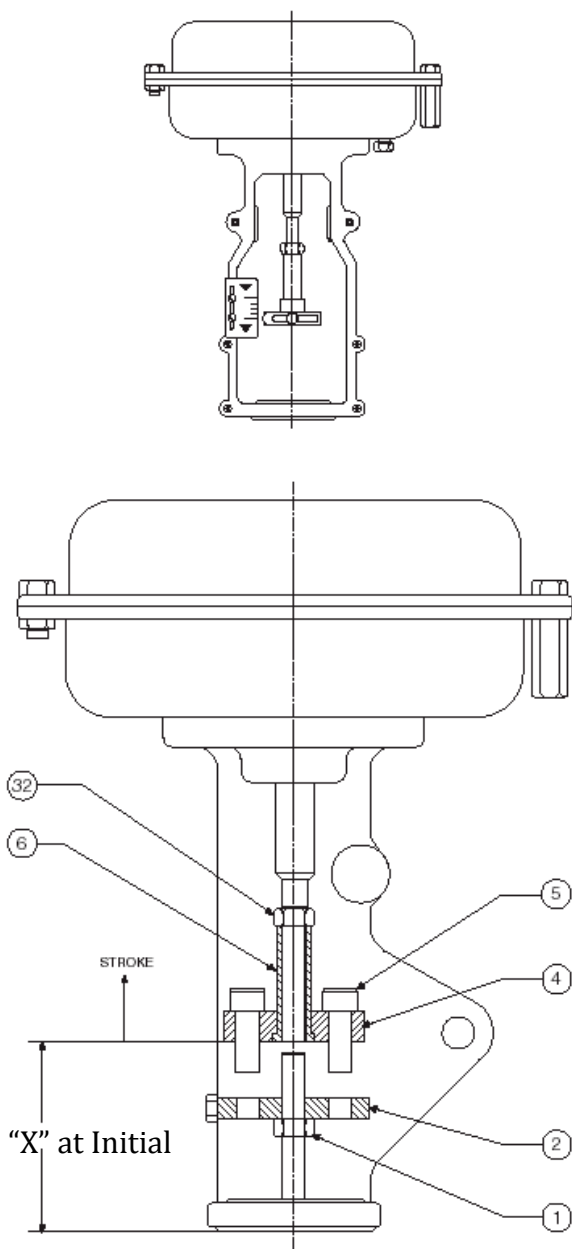

Figure 14
Apply initial air pressure. Adjust the plug stem to position of stem flange (2) as shown in Figure 14.